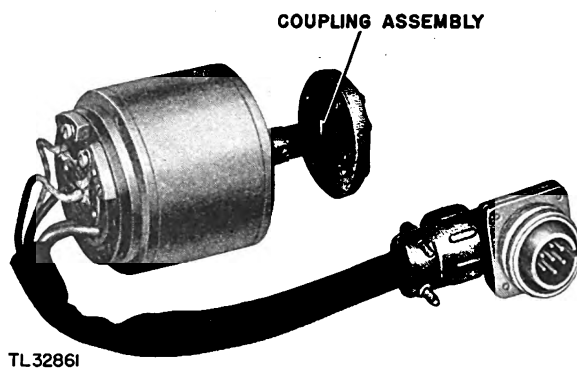

Figure 35. Selsyn transformer.
(4) SELSYN TRANSFORMER (Fig. 35).